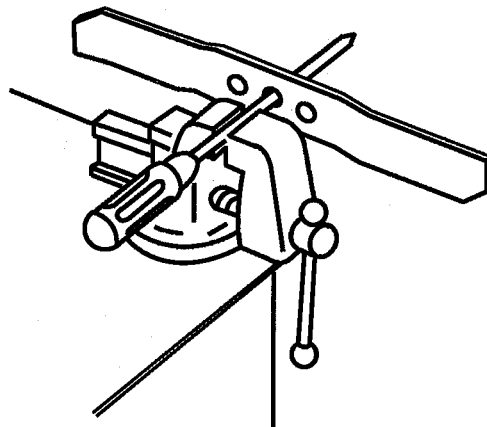

Figure 31
1. Check the balance of blade by placing the center hole of blade over a nail or screwdriver shank clamped horizontally in a vise (Fig. 31).